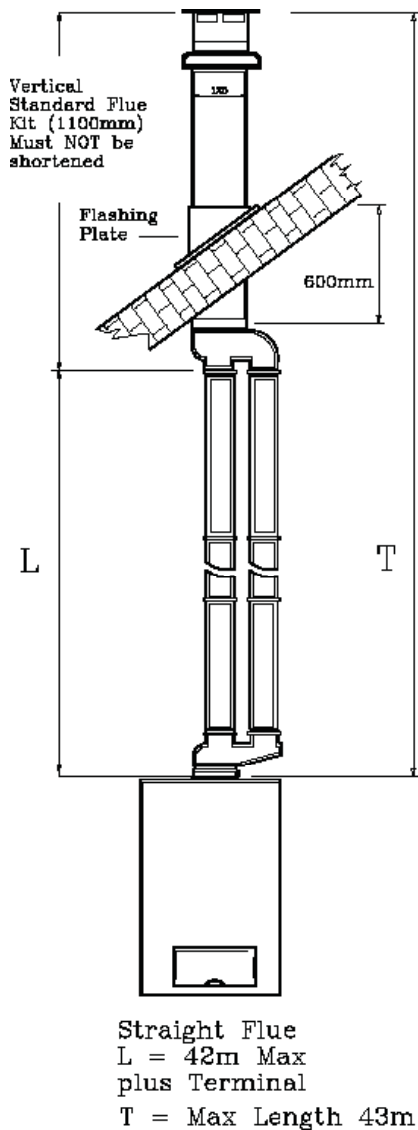

Fig. 95
11.1.3 Exhaust/suction system with concentric pipes for flat or sloping roofs. Extensions with two separate pipes (Fig.95).